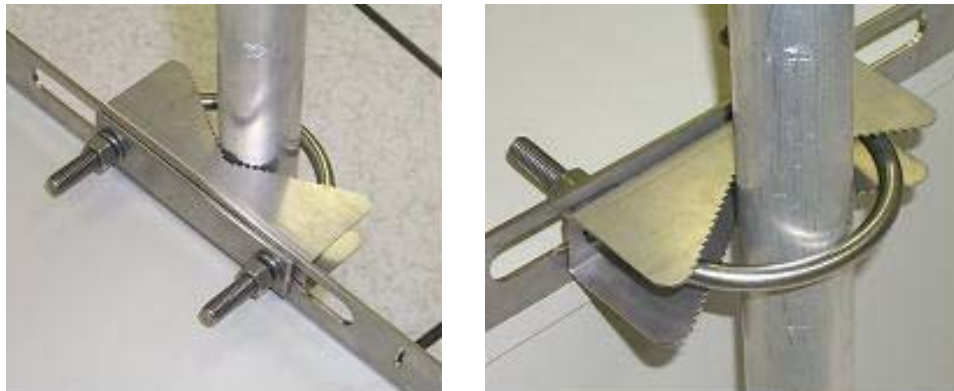

Figure 7: Detail of pole mounting
- a. attach the V-bracket to the pole as shown in Figure 7.